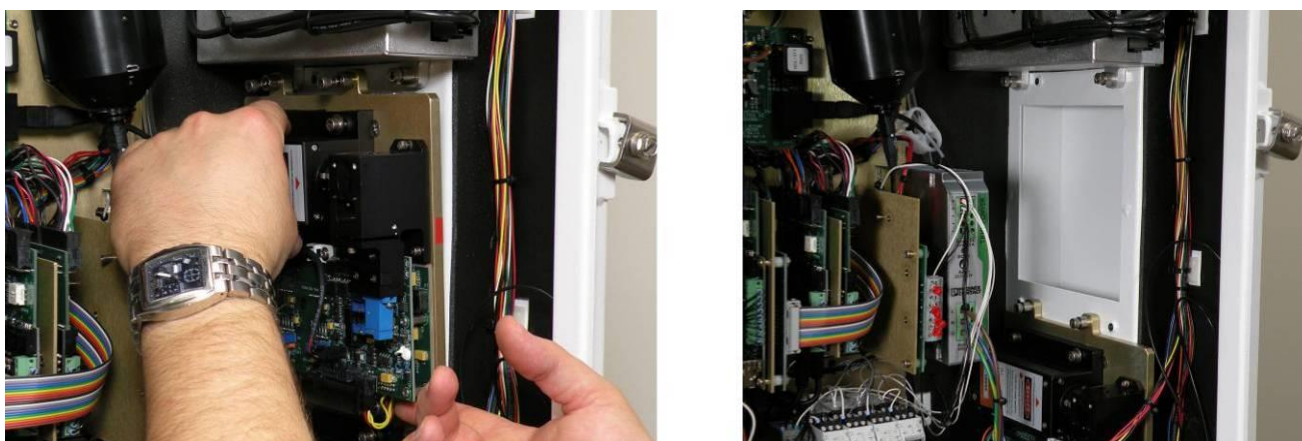

Figure 130. Remove laser module
5. Pull towards the center of the analyzer so the heat sink clears the plenum. Then remove (Figure 130).